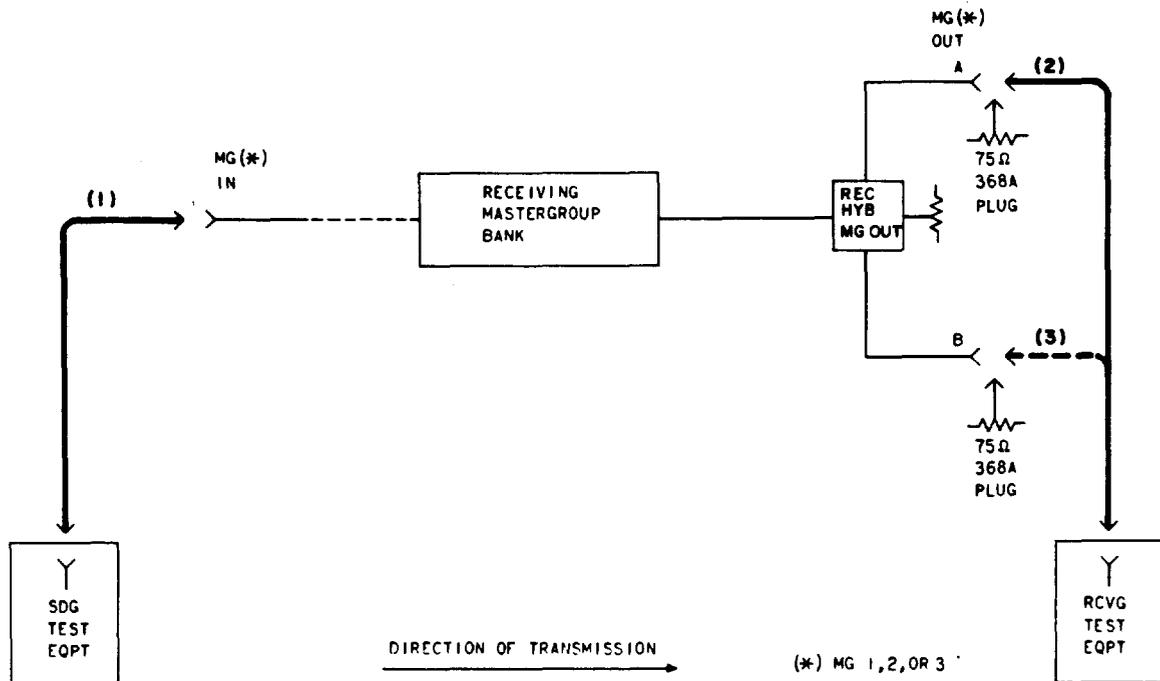

Fig. 1—Testing Arrangement
- 4 Connect the STE to the MG() IN jack [patch (1), Fig. 1].
- 5 Connect the RTE to the MG() OUT A jack [patch (2), Fig. 1].
- 20 Disconnect the RTE from the MG() A OUT jack [patch (2), Fig. 1].
- 23 Connect the RTE to the MG() OUT B jack [patch (3), Fig. 1].
25	Disconnect the RTE from the MG() OUT B jack [patch (3), Fig. 1].
28	Proceed to Chart 2 if the passband tests are to be made. If the passband tests will not be made, disconnect the STE from the mastergroup bank circuit under test [patch (1), Fig. 1].
1	Connect the RTE to the MG () OUT A jack [patch (2), Fig. 1].
15	<p>Disconnect the STE and RTE from the mastergroup bank circuit under test [patches (1) and (2), Fig. 1].</p>
22	Disconnect the STE and RTE from the mastergroup bank circuit under test [patches (1) and (3), Fig. 1].